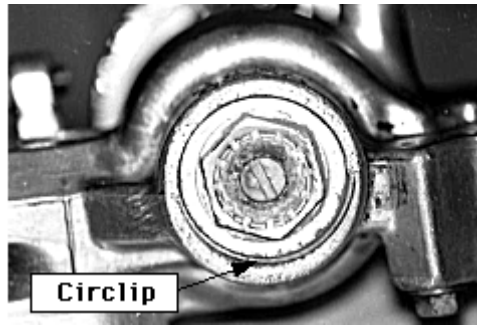

Fig 7
11. Remove the circlip from the bottom of the fork, **fig 7** (if installed).